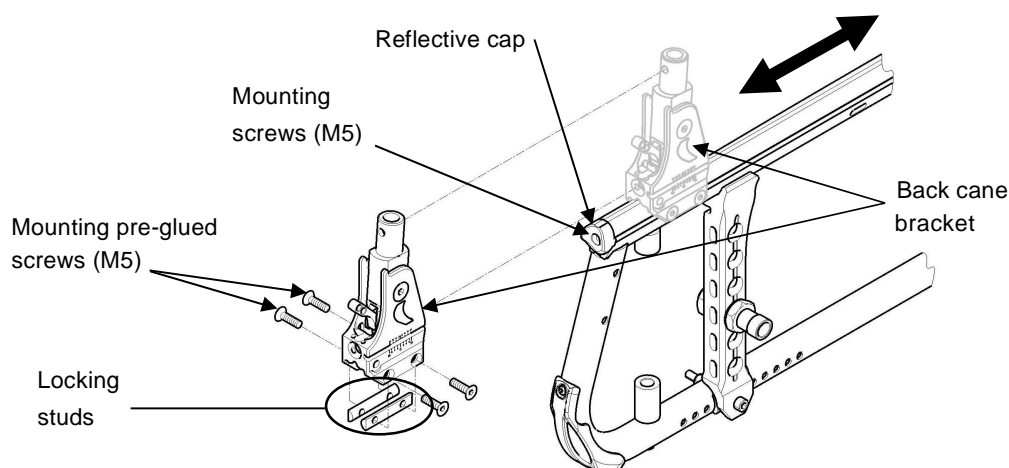

FIGURE 4.7 Removing/Installing/Adjusting the Back Cane Bracket
3. Remove the end caps from the front or the rear of the seat rails (in this case, preliminary dismount the back cane bracket, refer to figure 4.7).
NOTE: For this procedure, refer to FIGURE 4.7.